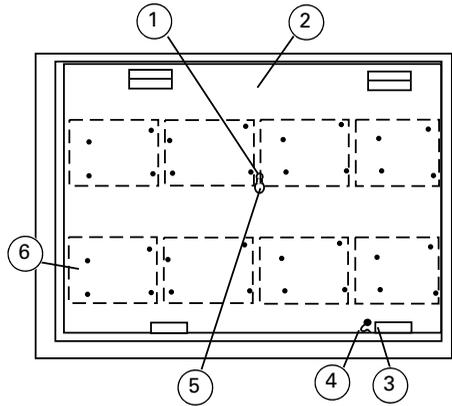

Fig. 2: ANC-8 - Chassis Plate
- 1 Assemble the required ancillary PCBs onto the chassis plate as required, fixing as shown in Fig. 2.
- 2 Assemble the chassis plate into the housing and secure using fixing screw, see Fig. 2.
- 3 Connect the chassis plate earth lead to the housing, see Fig. 2.